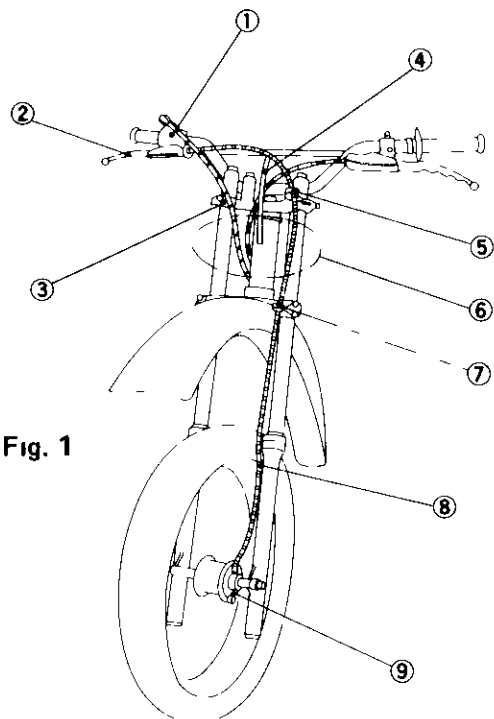

Fig. 1
- 1 Brake wire (Fig 1)
- 1 Câble de frein (Fig 1)